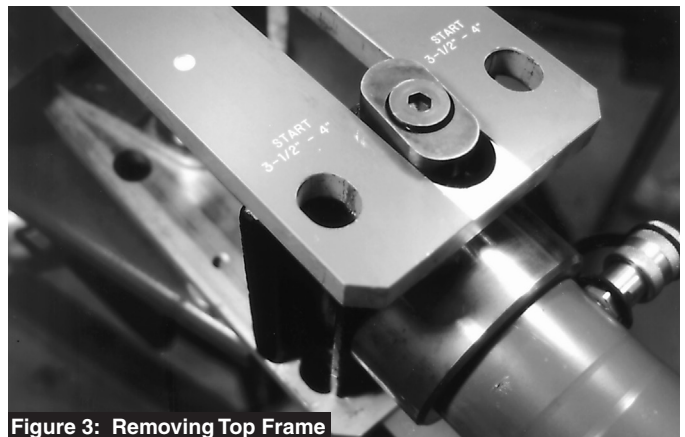

Figure 3: Removing Top Frame
3. Turn the pivot lock to align it with the slot in the frame. Lift the top frame off the roller assembly. Figure 3.